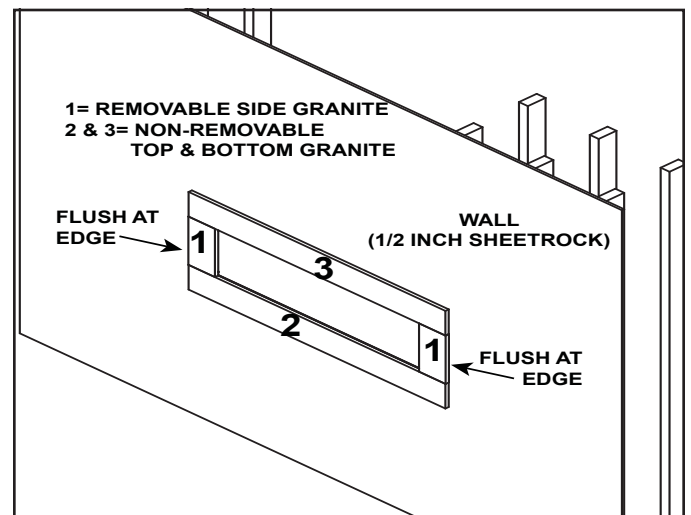

Figure 10.23 Sequence of Granite Piece Placement
**Note:** Install granite pieces in the order indicated in Figure 10.23.
9. Center the top granite piece in position on top of the two side pieces ensuring that the left and right edges of the top piece are flush with the edges of the left and right outside granite pieces. See Figure 10.23.